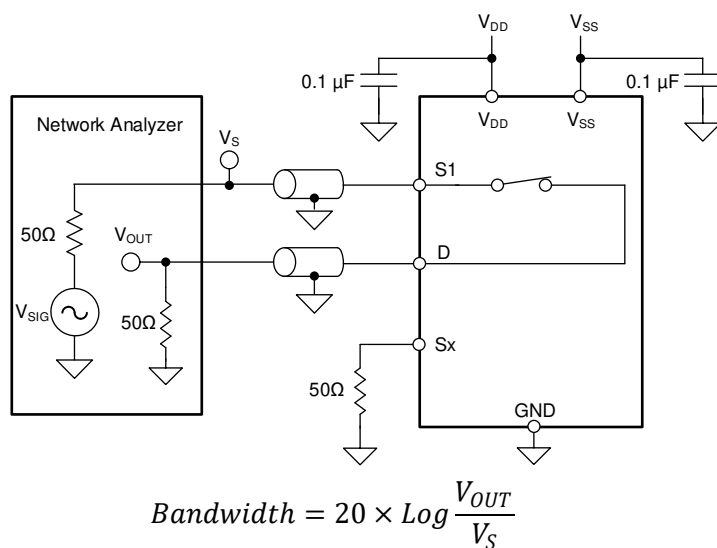

Figure 7-12. Bandwidth Measurement Setup
Bandwidth is defined as the range of frequencies that are attenuated by less than 3dB when the input is applied to the source pin (Sx) of an on-channel, and the output is measured at the drain pin (D) of the device. Figure 7-12 shows the setup used to measure bandwidth.